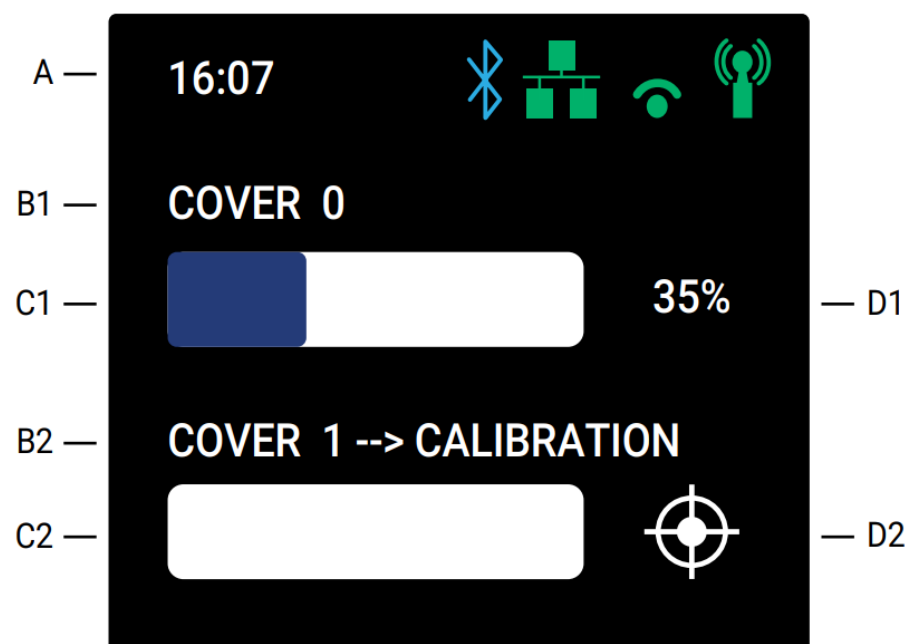

fig.3
- 4 Display (fig. 3)
### Display (fig. 3)
The top bar (Fig. 3 A) of the LCD shows brief status information:
Each cover is represented by a name (Fig. 3 B1/B2), a slider (Fig. 3 C1/C2), and a notification area (Fig. 3 D1/D3).
The notification areas contain the position of the covers in percentage (Fig. 3 D1) or an icon (Fig. 3 D2) indicating an event (calibration, obstruction, overvoltage, overcurrent, or overpower).
The events are also transcribed next to the cover names (Fig. 3 B2).